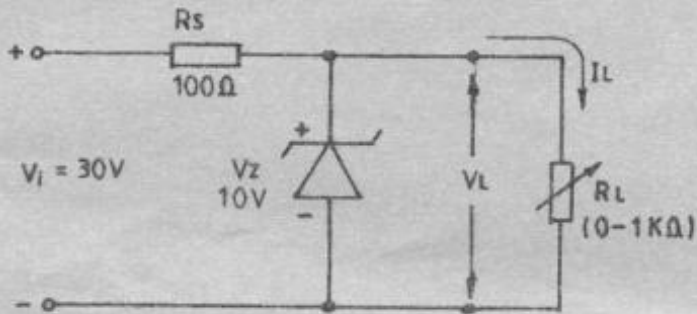

Fig. 5
- (I) peak inverse voltage;
- (II) ripple factor.
- (c) Figure 5 shows a circuit diagram of a shunt regulator using a Zener diode. Determine the: